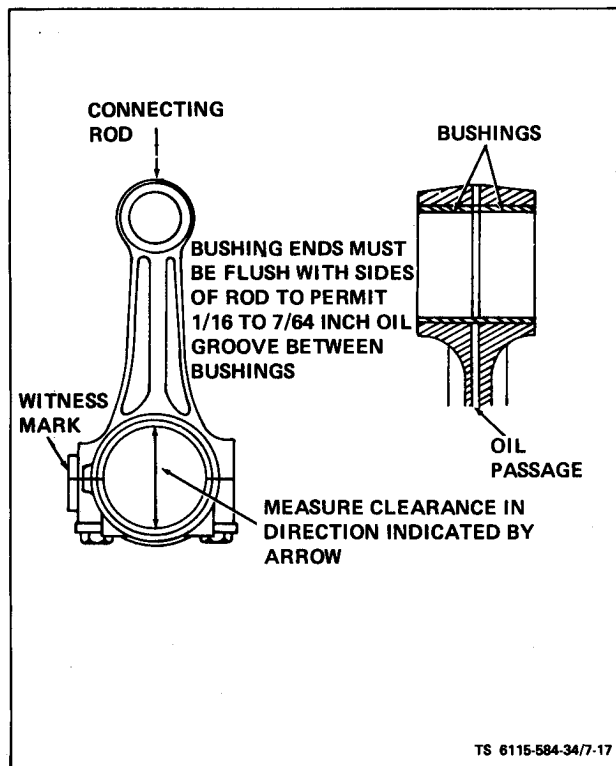

Figure 7-17. Connecting Rod and Bushings
(3) Rings. Place each piston ring into its cylinder bore and using a feeler gauge measure gap dimensions. Gap is shown in Table 1-2. If gap is under 0.010 inch, file as follows:
(4) Connecting Rods (see figure 7-17). Clean connecting rods and check for each defects. Check connecting rod bushings for proper clearance with piston pin. Clearance is given in Table 1-2. If bushings (13, figure 7-14) are excessively worn, press them out and install one new bushing from each side of bushing bore. Press new bushings only until flush with sides of rod to leave 1/16 to 7/64 inch oil groove in center. Ream bushing I.D. to obtain the proper clearance. Check bore in connecting rod. Bore must be open. Check connecting rod alignment on a standard alignment fixture.
(5) Connecting Rod Bearings (see figure 7-17). Inspect connecting rod bearings for burrs, breaks, pits and wear. Measure clearance between bearings and crankshaft journal. See Table 1-2 for clearance. If necessary, repiece with new standard or undersize precision bearings.
(1) Hone cylinder walls. Clean and oil the cylinder walls. Install each piston in proper cylinder using a suitable installer. Each piston assembly should be installed with notch on piston toward front of engine. The notch on the circumference of the closed end of the piston should be located closest to front of engine.
(2) Position each connecting rod on crankshaft and oil the journal and install rod cap with bearing half. When installing rod cap, position so raised witness mark on the forging matches the mark on connecting rod. See figures 7-17 and 7-18. The piston witness mark should face front and rod witness marks toward camshaft side of engine.
(3) Tighten capscrews to specified torque. See table 1-1.
(4) Turn engine over by hand to see that all bearings are free.